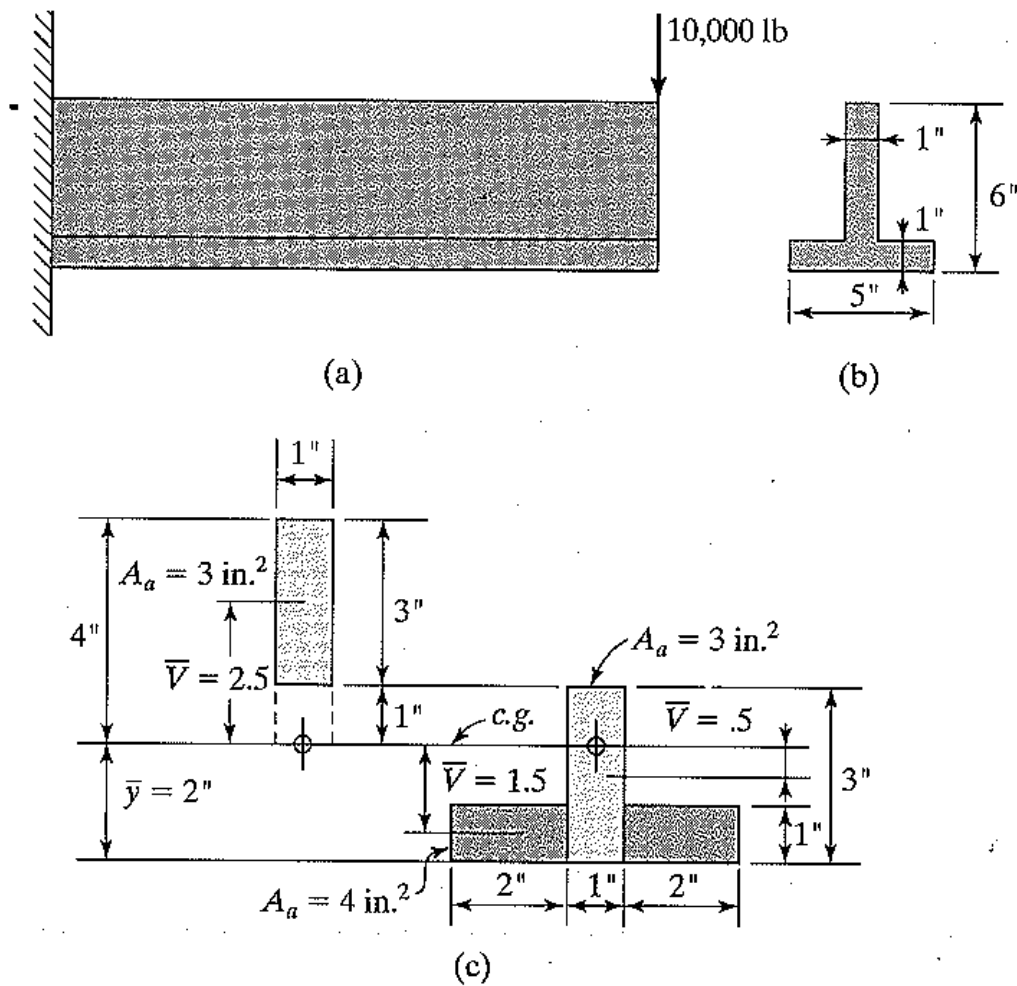

Figure 1-21 Examples 1-3, 1-6, and 1-12
Problem Statement: Find the transverse shear in the material 3 in. from the top surface for the beam of Fig. 1-21 (a).
Referring to Fig. 1-21(c), it is seen for a location 3 in. from the top that $\bar{v} = 2.5$ in. and $A_a = 3$ in.². Substitution in Eq. (25) gives